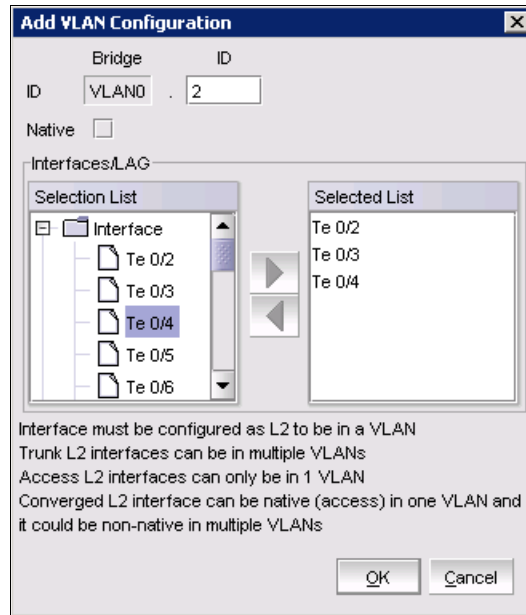

Figure 5-28 VLAN creation
6. Click the right arrow button to move the interfaces or LAGs to the Selected List (Figure 5-28 on page 174).